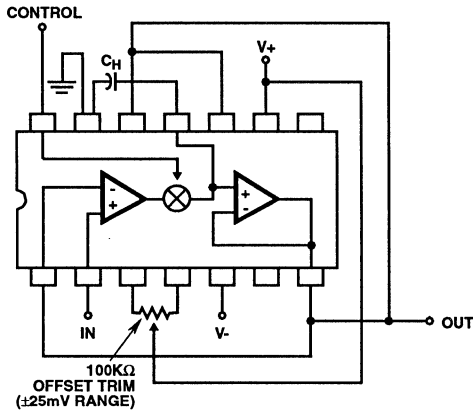

FIGURE 20. BASIC SAMPLE-AND-HOLD (TOP VIEW)
The offset voltage of the HA-2420 and HA-2425 may be adjusted using a 100kΩ trim pot, as shown in Figure 20. The recommended adjustment procedure is:
1. Figure 20 shows a typical unity gain circuit, with Offset Zeroing. All of the other normal op amp feedback configurations may be used with the HA-2420/2425. The input amplifier may be used as a gated amplifier by utilizing Pin 11 as the output. This amplifier has excellent drive capabilities along with exceptionally low switch leakage.